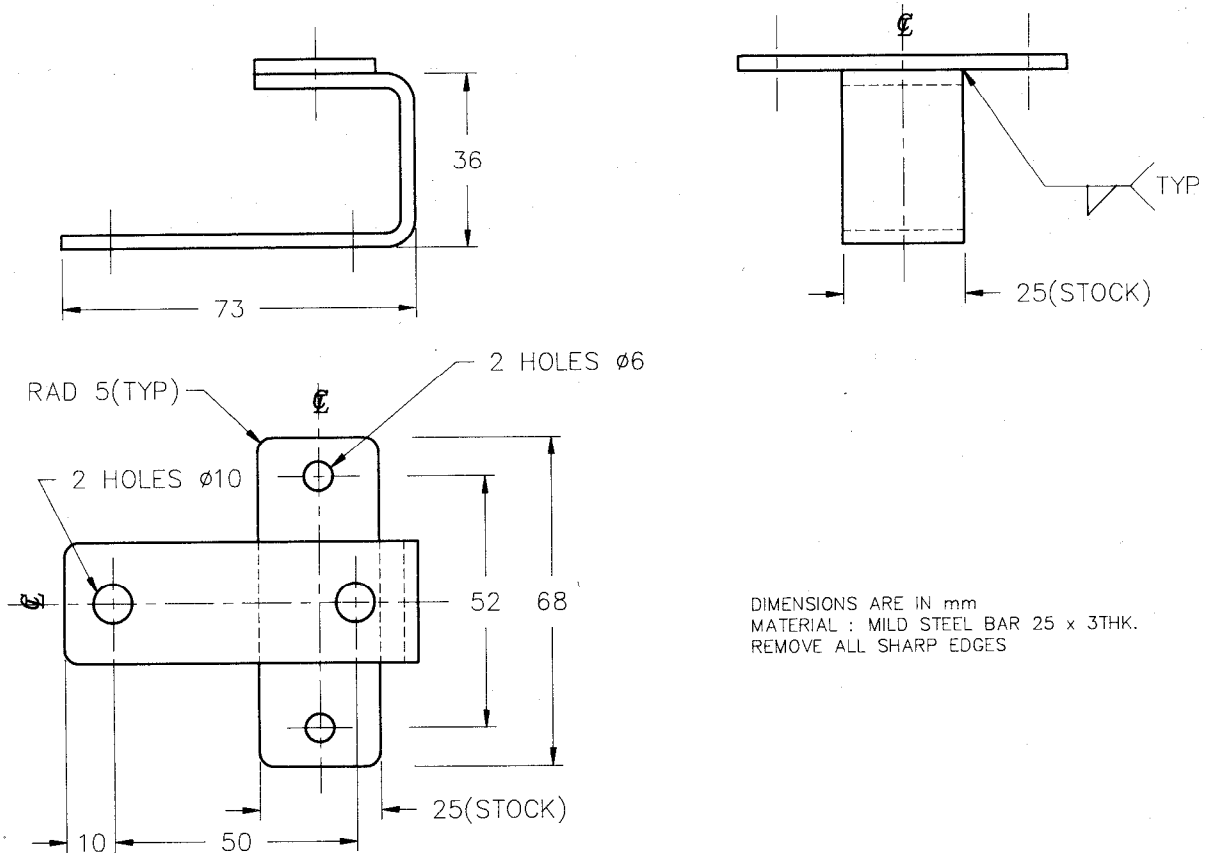

FIG 3 - AUSTSTEYR RIFLE CLIP RETAINING BRACKET
10. Manufacture AUSTSTEYR Rifle Clip Retaining Bracket using Item 1, Table 2 to the dimensions shown in Fig 3.